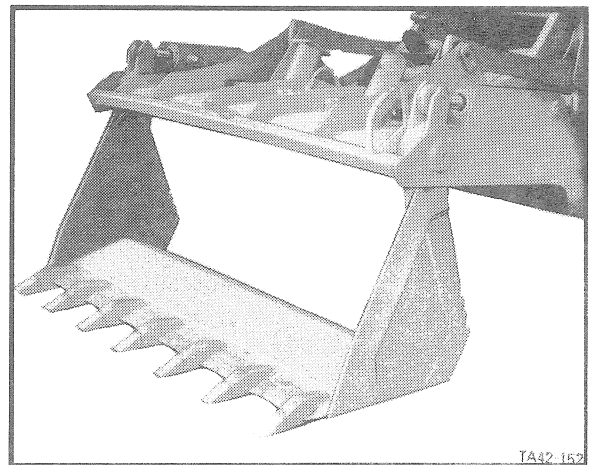

Fig. 4
- (a) Open the clam then position the bucket so that the bottom edge of the clam is flat on the ground as shown in Fig. 4.